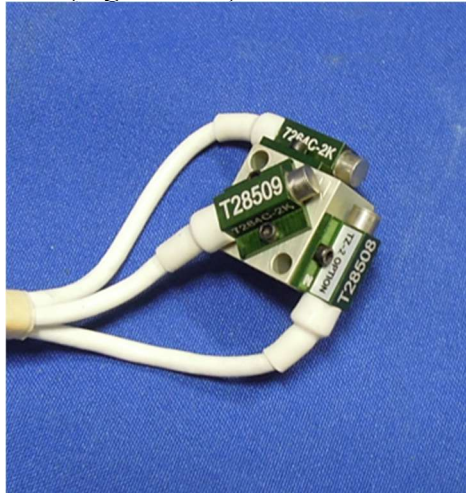

Figure 5-39. Attach three accelerometers to the Mid-Spine Mounting Block (474-3066)
- 5.3.1 Attach three uniaxial accelerometers (SA572-S4) to an THOR-05F Mid-Spine Mounting Block (474-3066) using two M1.4 X 0.3 X 3 SHCS per accelerometer (Figure 5-39).